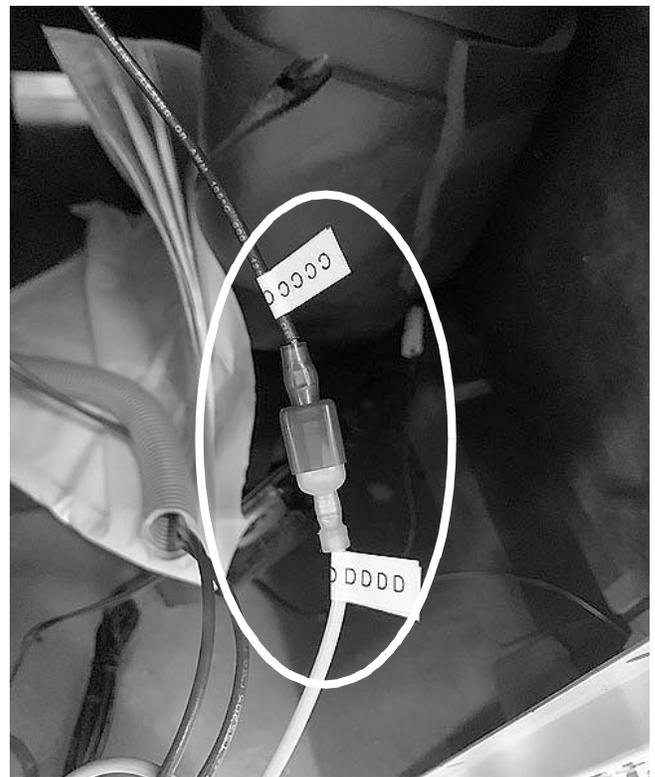

Fig. 16 High Pressure (D) and Freeze Stat (C) Wires
3. Locate the connected High Pressure and Freeze Stat wires labeled D and C, respectively. (See Fig. 16).